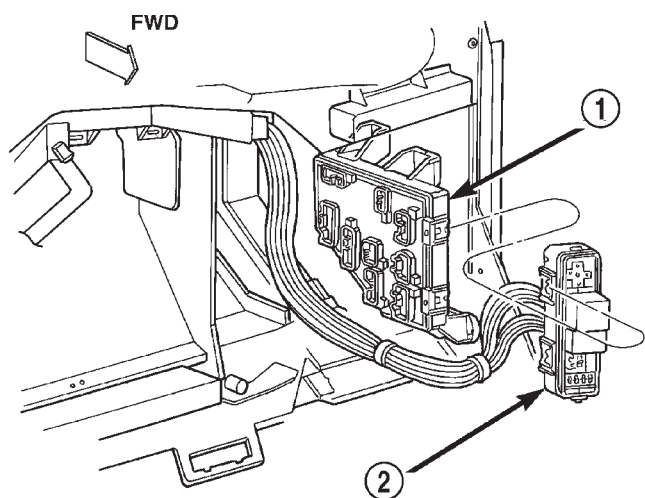

Fig. 7 Relay and Fuse Block
(1) Disconnect and isolate the battery negative cable.
(2) Remove the steering column opening cover and knee blocker from the instrument panel. Refer to Steering Column Opening Cover and Knee Blocker in the Removal and Installation section of Group 8E - Instrument Panel Systems for the procedures.
(3) Reach through the outboard side of the steering column opening in the instrument panel to access the relay and fuse block on the back of the junction block (Fig. 7).